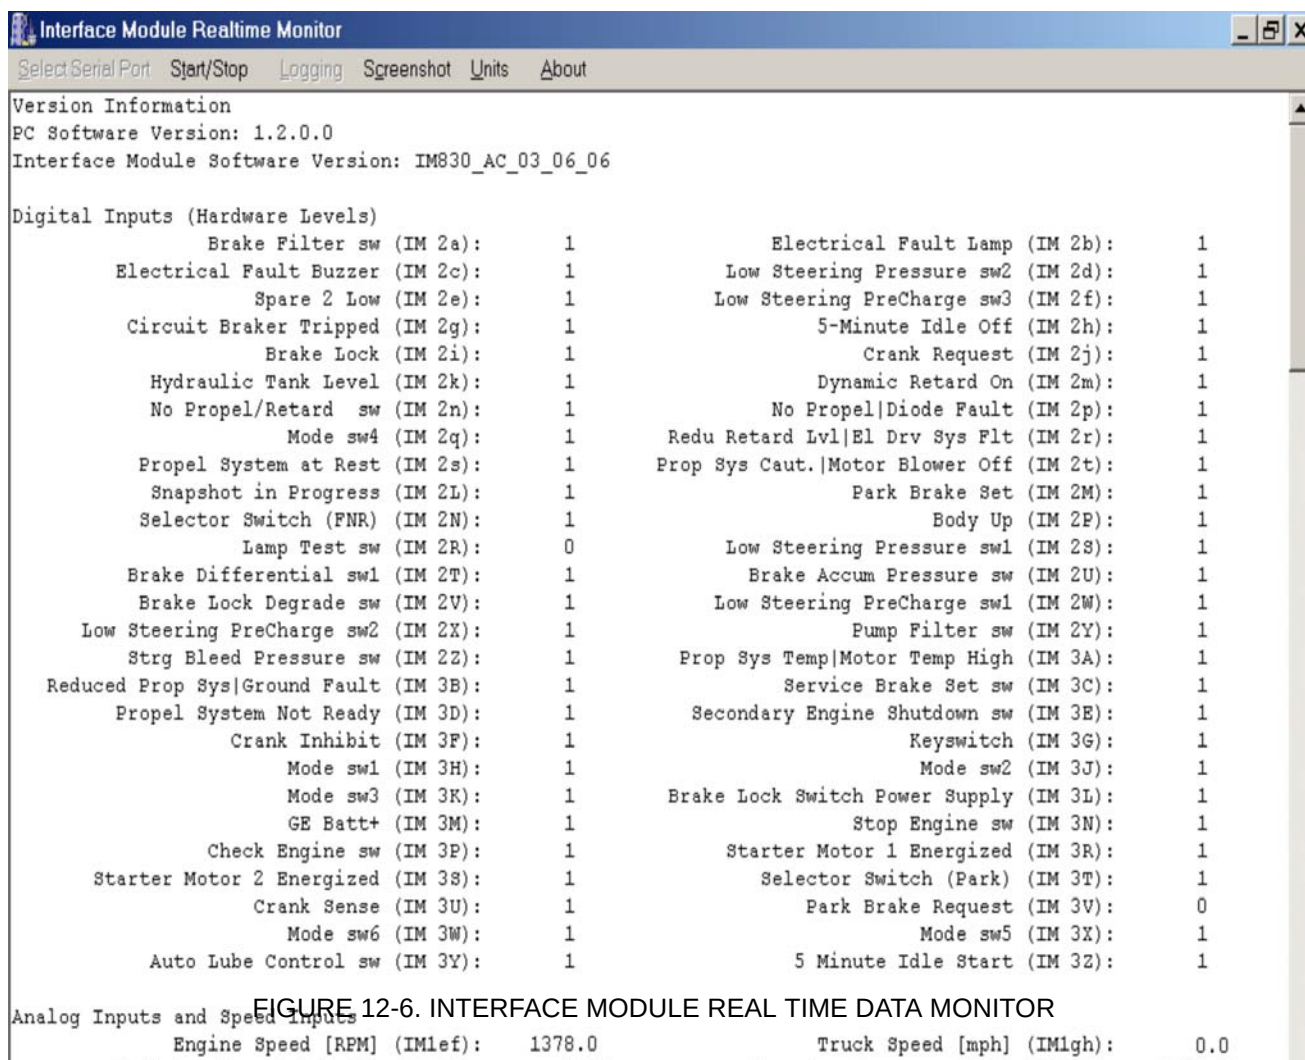

FIGURE 12-6. INTERFACE MODULE REAL TIME DATA MONITOR
12. The program should display data as shown in Figures 12-6 and 12-7.